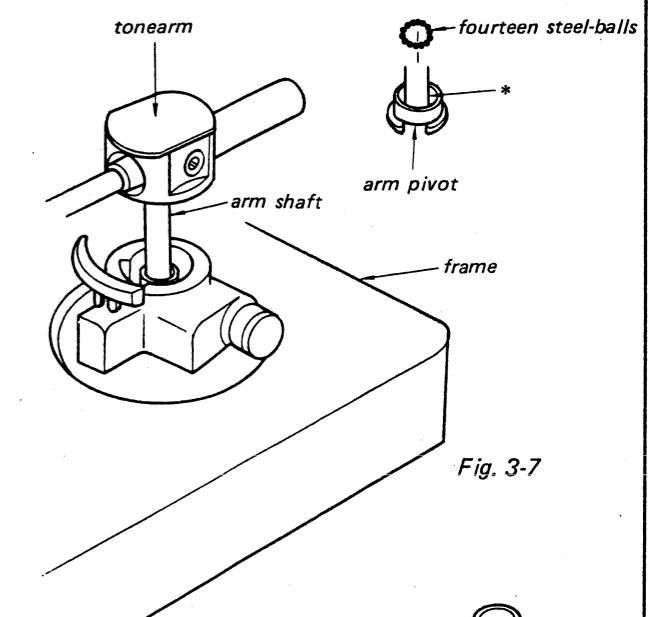

Fig. 3-7
1. Clean the portion of the arm pivot marked by Fig. 3-7 with an alcohol-moistened swab.